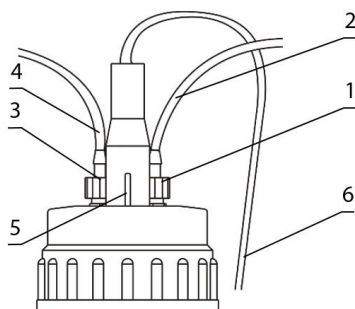
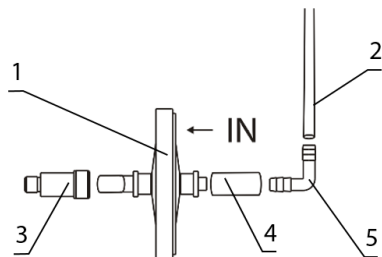
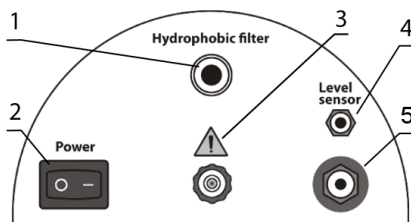

Figure 4. FTA-2i lid with sensor and tubing
Figure 6. FTA-2i filter setup.
Figure 7. FTA-2i rear panel.
1. Lid (see fig. 4). 2. Trap flask.
- Assemble the filter set (figure 6) and connect it to the port on the rear panel of the unit (fig. 7/1).
**Caution!** Position the filter with the **IN** marking pointing away from the unit (fig. 6/1).
- Attach the fitting (fig. 4/1) of the tubing to the filter (fig. 4/2) to the valve with **white** ring on the lid.
- Ensure that the filter set is tightly fixed in the slot (fig. 7/1).
- Attach the fitting (fig. 4/3) of the tubing for liquids (fig. 4/4 and 5/3) to the valve with the **blue** ring on the lid.
- Connect the sensor cable (fig. 4/5) to the lid of the unit and to the port on the rear panel of the unit (fig. 7/4).
- Connect the external power supply unit into the socket at the rear side of the unit (fig. 7/5) and position the unit for an easy access to the external power supply and the power switch.
8.1 Different aerosols and vapours from volatile and hazardous agents can have a damaging effect on the specific parts of the units. Please see below for **FTA-1** and **FTA-2i** material compatibility tables 1 and 2 with different common laboratory chemicals. It is required to use the **FTA-2i** pump's exhaust (fig. 7/3) by connecting it to the means of required filtration through a tube or, alternatively, by placing the unit in a fume hood when working with volatile and hazardous agents. **FTA-1** does not have pump exhaust connector available; therefore, it is obligatory to place the unit in a fume hood. It is suggested to test the compatibility of related parts to a specific chemical prior to extensive use. Biosan does not warrant that the data in the tables is correct or comprehensive and that any material is fit for any purpose.